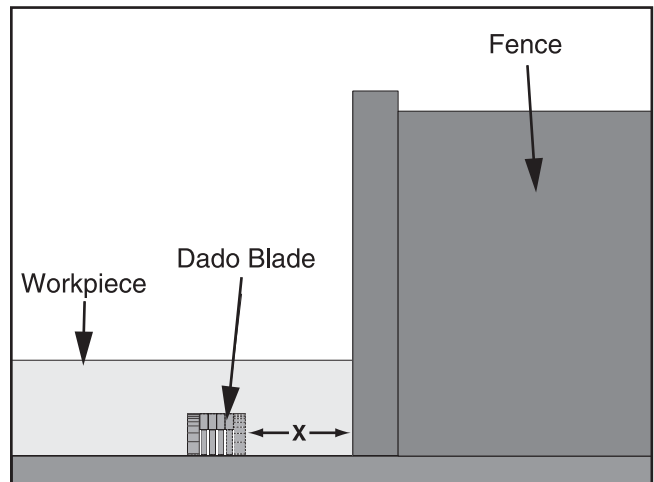

Figure 27. Stacked or wobble dado cut.
5. Adjust the distance between the fence and the inside edge of the blade as shown in **Figure 27** to dado the length of a workpiece.